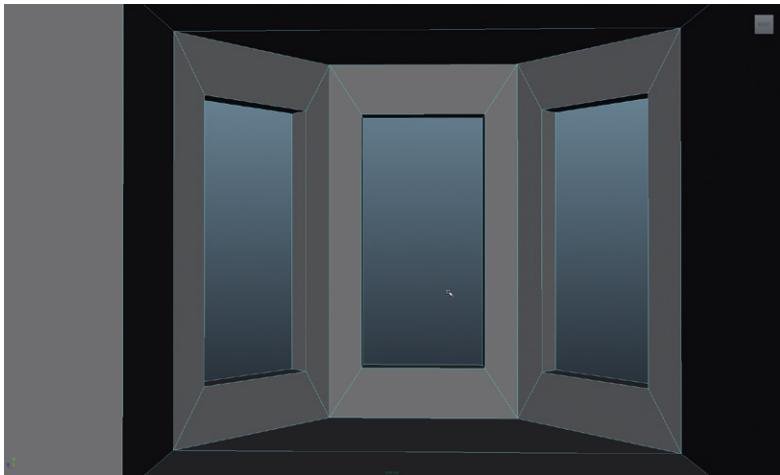

FIG 3.28 Making the window faces into holes. This is the view from inside the room.
Step 43: Turn these into window holes. To do this, simply delete the faces selected (Fig. 3.28).